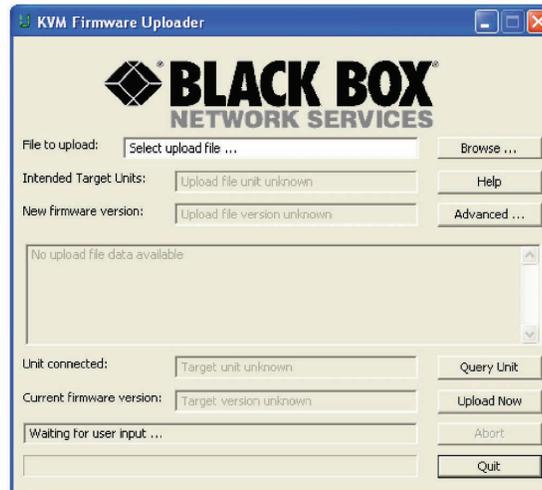

FIGURE 4-1. KVM FIRMWARE UPLOADER UTILITY SCREEN
5. Run the KVM Firmware Uploader utility. From that folder, select the KVMUploader icon to run the upgrade utility. The KVM Firmware Uploader dialog will be displayed as shown in Figure 4-1.